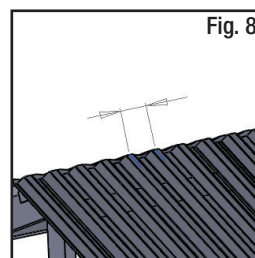

Fig. 8
2. Measure roof corrugations before attaching brackets to the solar collector. Brackets should be attached to the peaks of roof corrugations, not in the valleys Fig. 8.